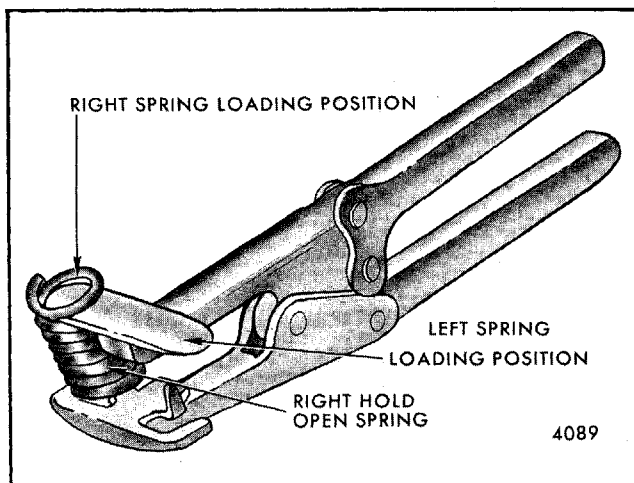

Fig. 5-96-Hold-Open Spring, Loading Positions Using Tool J-23497 or Equivalent - X Styles
2. Using spring compressing tool (J-23497 or equivalent), install hold-open spring in lower hinge (Figs. 5-96 and 5-97).
NOTE: When installing hold-open spring on tool J-23497 or equivalent, position spring so that the cut end of the spring is in line with the center of the blade on the straight jaw. Figure 5-96 illustrates position of spring for right side installation (left side installation would utilize the other end of the blade). The other end of the spring should be seated over the hook on the opposite jaw of the tool.